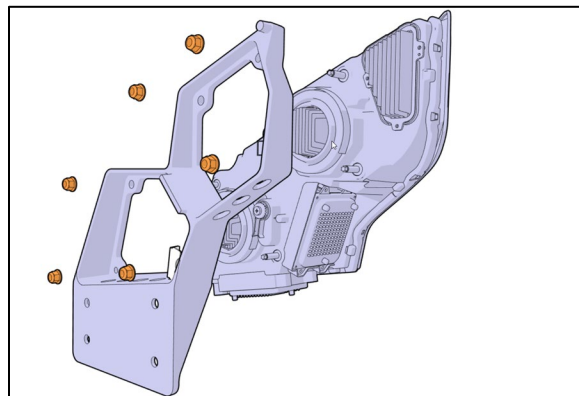

FIGURE 95
5. Unscrew six (6) nuts (Figure 95) and separate the headlamp module from the support.